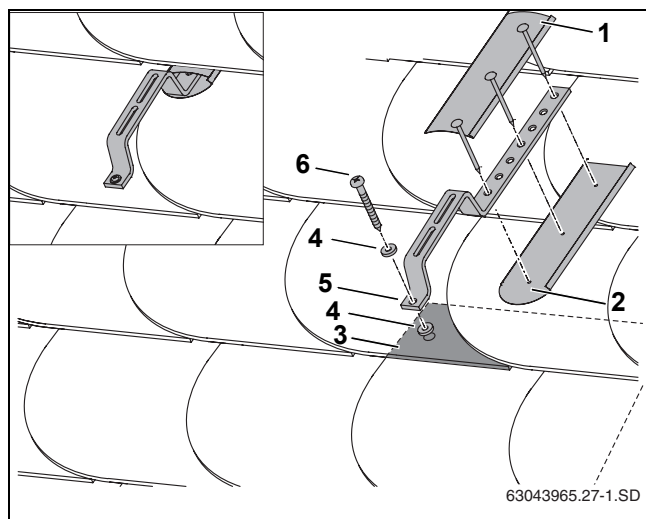

Fig. 27 Assembly for slate or batten roofs
The diagrams show the installation of a roof hook for special roofs and a sealed covering with boards to be applied by the customer (Fig. 27, [1] and [2]) on a slate or batten roof.
- ▶ Secure the special roof hooks (Fig. 27, [5]) and the insulation (Fig. 27, [4]) with the screw (Fig. 27, [6]) to the slate or batten roof.
- ▶ To ensure sealed installation, the customer should underlay the special roof hooks with boards (Fig. 27, [1] and [2]).
The special roof hook must be supported by a multiple layers (Fig. 27, [3]).